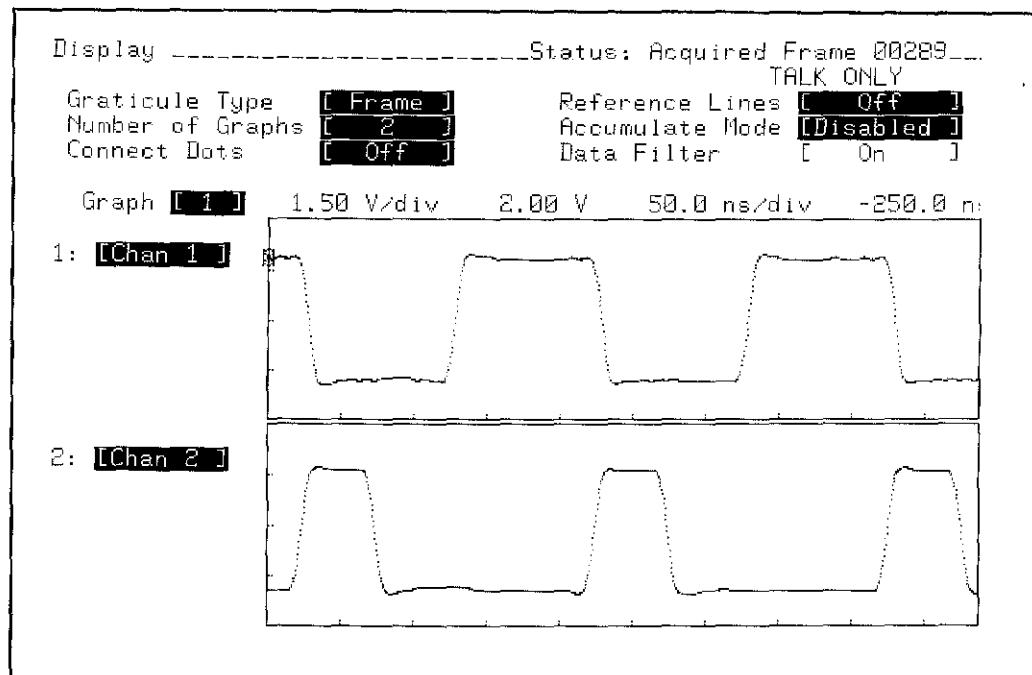

Figure 3-27. Display Configuration and Minimum Hold Time Test Waveforms
12. Configure the display as shown in figure 3-27. Observe the waveforms displayed. They should appear similar to those shown in figure 3-27. If not, repeat steps 1 through 11.
16. Exchange the BNC cables connected to Channel 2 and External Trigger inputs. The display should appear similar to figure 3-27.